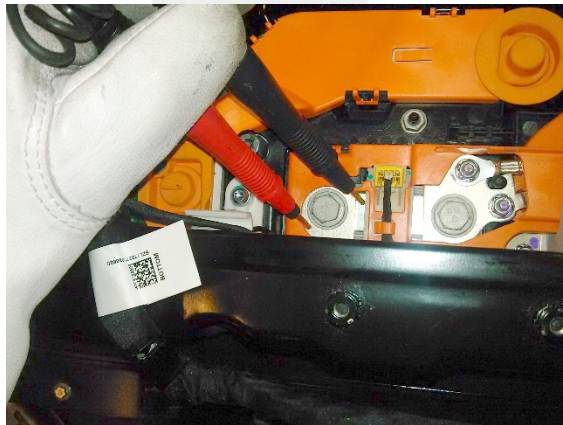

Figure 9
15. Use the Hioki resistance meter to measure the resistance at the HV joint between the rear drive unit HV header and the busbar at each bolt (Figure 9).